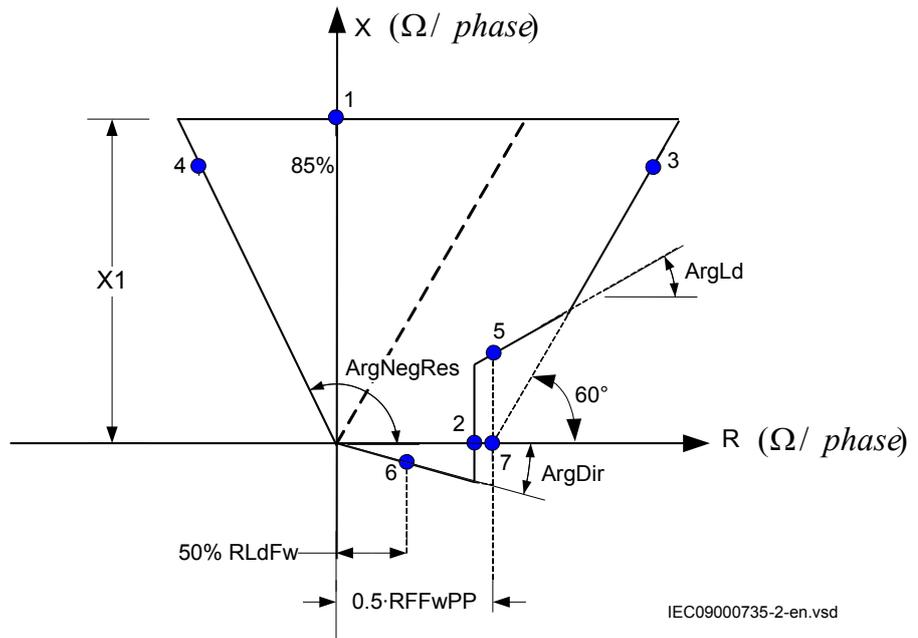

Figure 12: Operating characteristic for phase selection function, forward direction phase-to-phase faults
Table 5 is used together with figure 12.
- Repeat steps 1 to 3 to find the operate value for the phase-to-phase fault in L1 — L2 according to figure 12 and table 5.